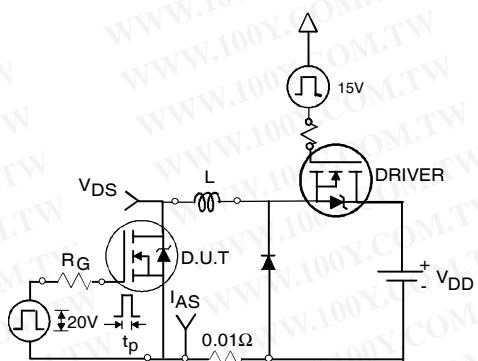

Fig 12a. Unclamped Inductive Test Circuit
- ③ $I_{SD} \leq 125\text{A}$, $di/dt \leq 260\text{A}/\mu\text{s}$, $V_{\text{DD}} \leq V_{(\text{BR})\text{DSS}}$, $T_J \leq 175^\circ\text{C}$
- ④ Pulse width $\leq 400\mu\text{s}$; duty cycle $\leq 2\%$.
- ⑤ $C_{\text{oss eff.}}$ is a fixed capacitance that gives the same charging time as C_{oss} while V_{DS} is rising from 0 to 80% V_{DSS} .
- ⑥ Calculated continuous current based on maximum allowable junction temperature. Package limitation current is 90A.
- ⑦ Limited by $T_{J\text{max}}$, see Fig.12a, 12b, 15, 16 for typical repetitive avalanche performance.
3. Equation below based on circuit and waveforms shown in Figures 12a, 12b.